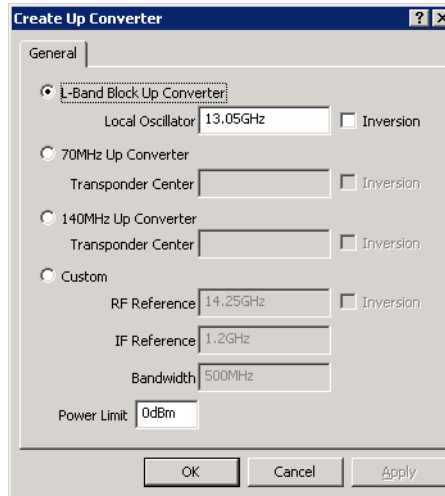

Figure 3-18 Create Up Converter dialog
1. Right-click on an Antenna icon and select **Create Up Converter**. The dialog box shown below (figure 3-18) will open.